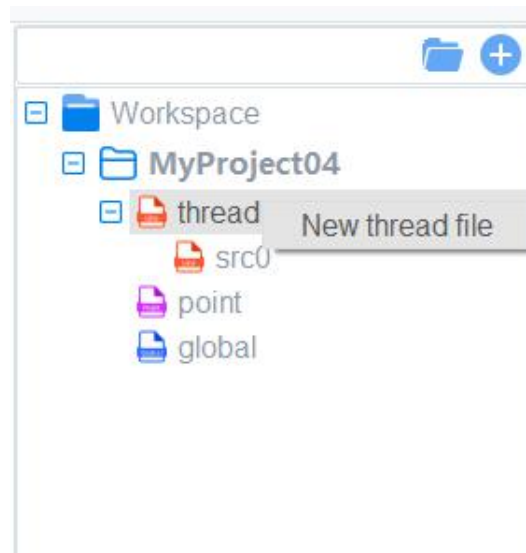

Figure 3.12 Create a project
Step 3 Set the number of threads based on site requirements, as shown in Figure 3.12. Click **thread** and right-click **New thread file**.